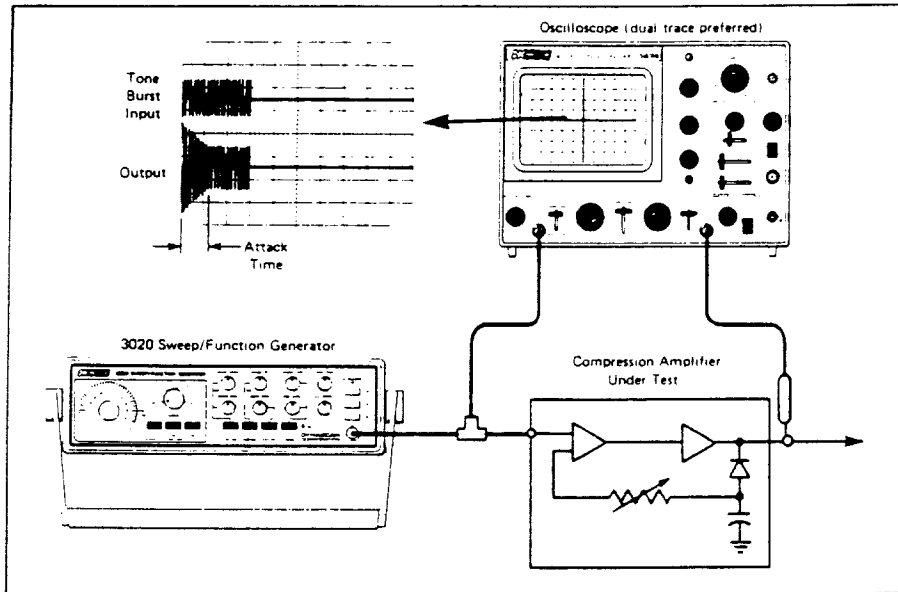

Fig. 21. Measuring attack time of compression amplifier.
1. Connect equipment as shown in Fig. 21. Using a dual-trace oscilloscope in its chop mode, display the input of the compression amplifier on one trace and the output on the other trace.
5. Using a calibrated time scale on the oscilloscope, measure the attack time, as shown in Fig. 21 and compare with the manufacturer's specifications.